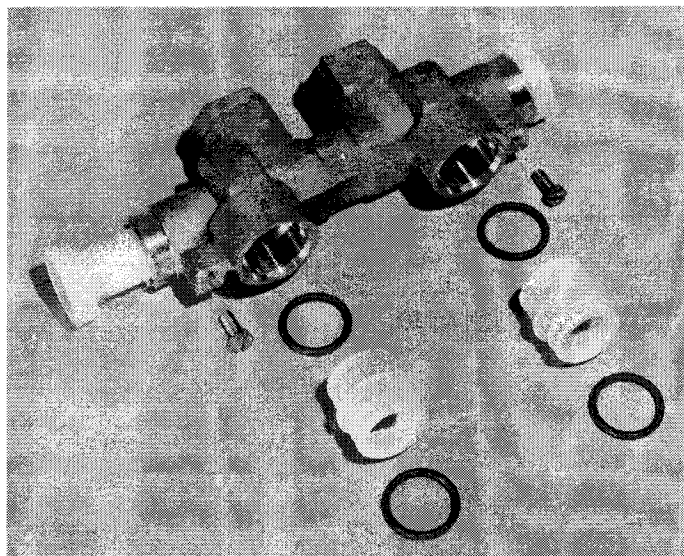

Fig. 2
This unit includes a Cul-Flo-Valv[®] Bypass (Fig. 2), with 3/4" NPT connections, PN 00-3314-46.
- Remove the two plastic adapters and the four adapter O-rings from the Cul-Flo-Valv Bypass Kit (Fig. 2).